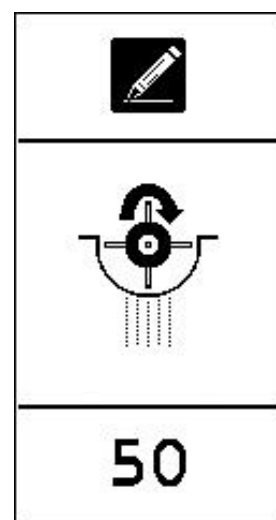

Figure 25 - Flour quantity correction
The first characteristic to check, and possibly adjust is the quantity of flour to be added at each production cycle. Flour is important for the correct processing of the dough: if it is insufficient compared to the consistency of the dough, the latter may not be dropped off correctly onto the rounding system, as it will stick in areas outside the normal flow of the work cycle. Conversely, if the flour is excessive, the ball will not be completely closed during rounding. To correct the quantity of flour, even during standard operation while the machine is producing, press the button par. 2.4 ref. 6 e the display will show the image in Figure 25.